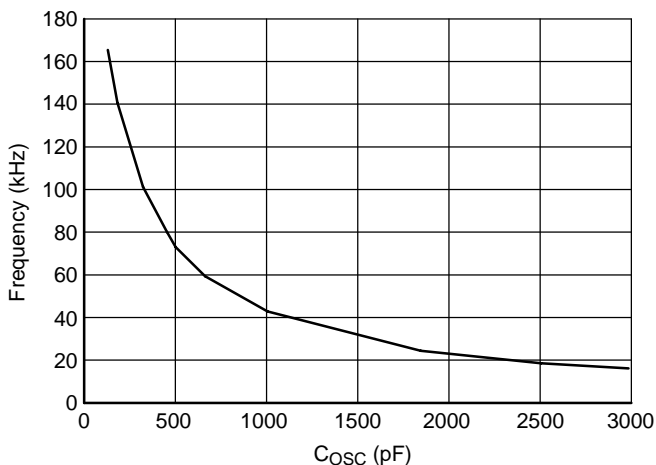

Figure 5. Oscillator Frequency (kHz) vs. C_{OSC} (pF), Assuming $R_{BIAS} = 64.9 \text{ k}\Omega$
1. Refer to Figure 5 to determine oscillator frequency.
Choose C_{OSC} based on the target oscillator frequency with an external resistor value, $R_{BIAS} = 64.9 \text{ k}\Omega$. (See Figure 5).